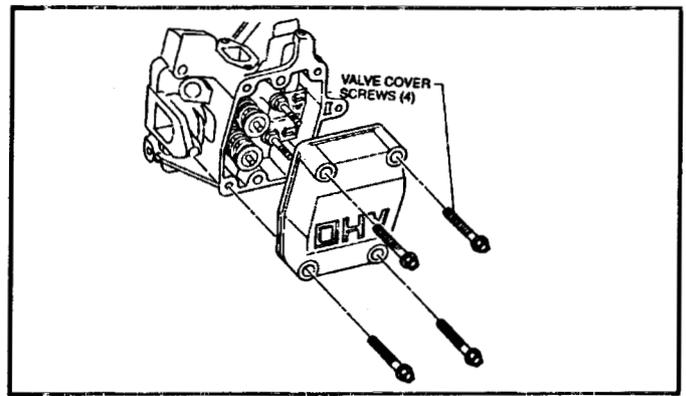

Figure 89
2. Install the valve cover. See Figure 89.